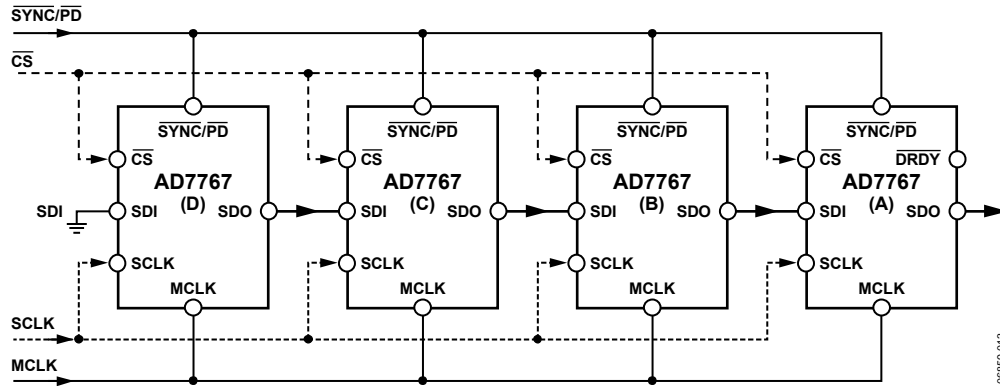
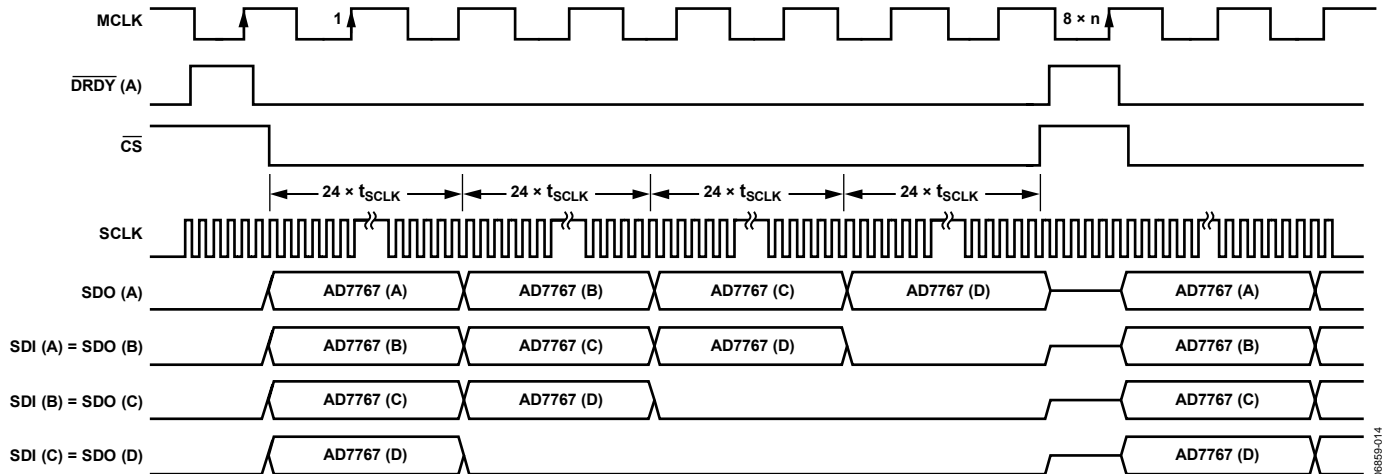

Figure 36. AD7767 Daisy Chain Configuration with Four AD7767 Devices
Figure 37. AD7767 Daisy Chain Timing Diagram ($n = 1$ for AD7767, $n = 2$ for AD7767-1, $n = 4$ for AD7767-2) Driving the AD7767
The block diagram in Figure 36 shows the way in which devices must be connected in order to achieve daisy chain functionality. This scheme operates by passing the output data of the SDO pin of an AD7767 device to the SDI input of the next AD7767 device in the chain. The data then continues through the chain until it is clocked onto the SDO pin of the first device on the chain.
An example of a daisy chain of four AD7767 devices is shown in Figure 36 and Figure 37. In the case illustrated in Figure 36, the output of AD7767 (A) is the output of the full daisy chain. The last device in the chain (AD7767 (D)) has its serial data in (SDI) pin connected to ground. All the devices in the chain must use common MCLK, SCLK, $\overline{\text{CS}}$, and SYNC/PD signals.
After applying a $\overline{\text{SYNC/PD}}$ pulse to all the devices, there is a delay (as listed in Table 7) before valid conversion data appears at the output of the chain of devices. As shown in Figure 37, the first conversion result is output from the device labeled AD7767 (A). This 24-bit conversion result is followed by the conversion results from the devices B, C, and D, respectively, with all conversion results output in an MSB first sequence. The stream of conversion results is clocked through each device in the chain and is eventually clocked onto the SDO pin of the AD7767 (A) device. The conversion results of the all the devices in the chain must be clocked onto the SDO pin of the final
As shown in Figure 36, the number of SCLK falling edges that occur during the period when $\overline{\text{DRDY}}$ (A) is active low must match the number of devices in the chain multiplied by 24 (the number of bits that must be clocked through onto SDO (A) for each device).